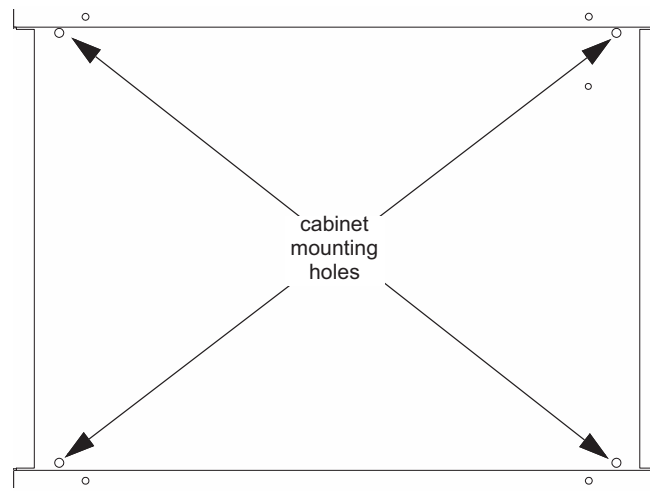

Figure 4.9 RBB/AB-55 Cabinet Mounting Holes
1. Mount the accessory cabinet. See Figure 4.9 for the four cabinet mounting holes.